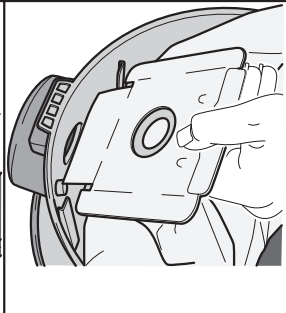

Fig. 2
- Check that the paper bag (3 Fig. 2) is assembled inside the appliance.
- If the paper bag (3 Fig. 2) is not present, assemble it by inserting the square cardboard stiffener into the slot on the drum.
- Remove the paper dust bag (3 Fig. 2) and replace it as described previously.